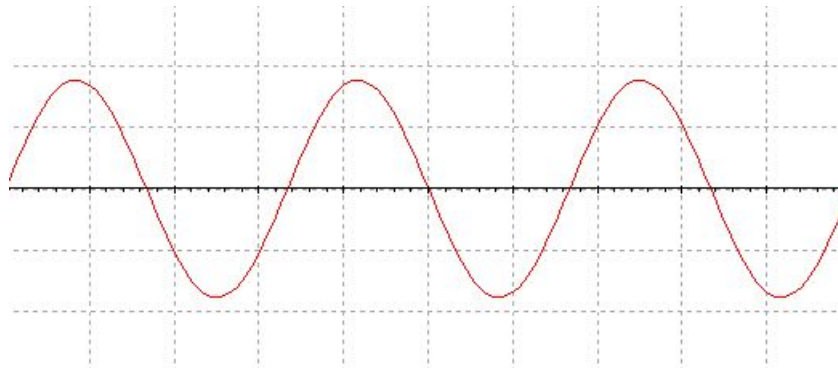

Figure 1-2
3. Measure the voltage across the output of the transformer with an oscilloscope. The output of the transformer was measured to be 12.6V. Figure 1-2 shows the ac voltage wave across the output of the transformer with 10 volts per division and 5 ms per division.